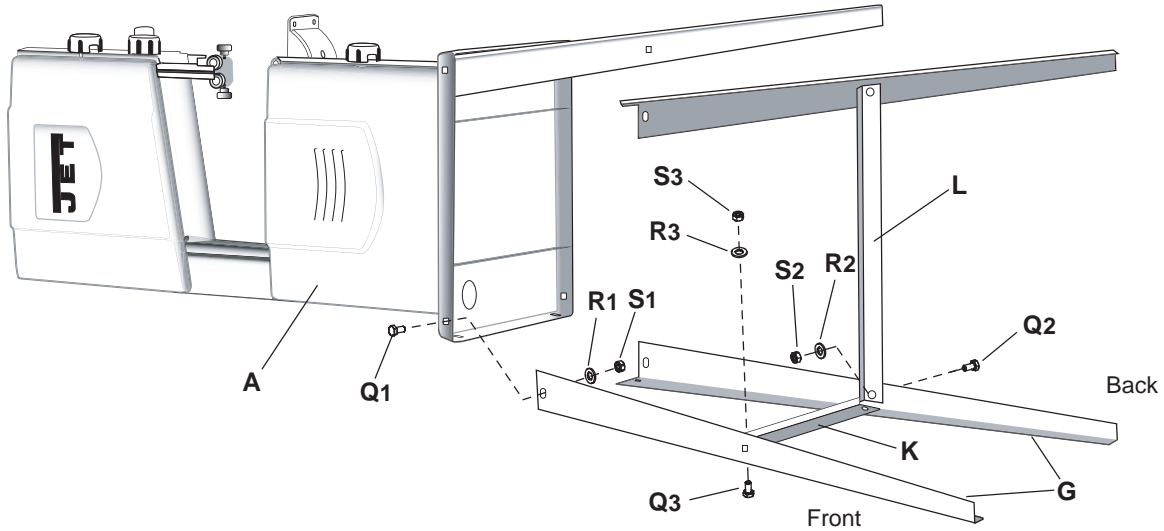

Figure 1
Referring to Figure 1:
1. Place the *band saw* (A) on its back as shown above, either on the floor or preferably on a workbench.
2. Assemble four *legs* (G) to the inside of the base of the band saw, securing each leg with two ea. M8x16 *carriage bolts* (Q1), M8 *flat washers* (R1) and M8 *hex nuts* (S1). Hand-tighten only at this time.
3. Attach a *long plate* (L) to the *rear legs* as shown in Figure 1. Secure with 2 ea M8x16 *carriage bolts* (Q2), M8 *flat washers* (R2), and M8 *hex nuts* (S2). Hand-tighten only at this time.
5. Attach two *short plates* (K) to the right legs and left legs in the same manner. Secure each leg with 2 ea M8x16 *carriage bolts* (Q3), M8 *flat washers* (R3), and M8 *hex nuts* (S3). Hand-tighten only at this time.